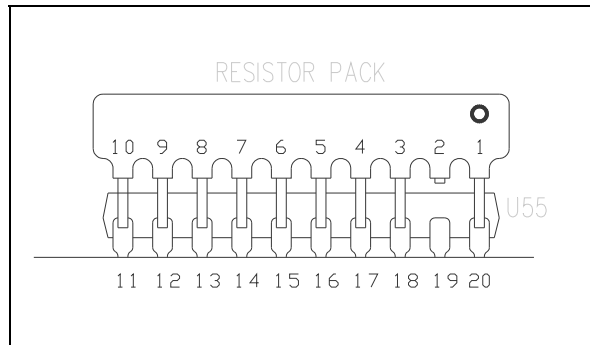

Figure 4
- m. Locate C30 and C31 close to the thin-net BNC and remove them from the board¹¹. Refer to Figure 4 while installing the resistor pack to U55¹².
- m. Locate C76 and C77 close to the thin-net BNC and remove them from the board. Refer to Figure 4 while installing the resistor pack to U55.